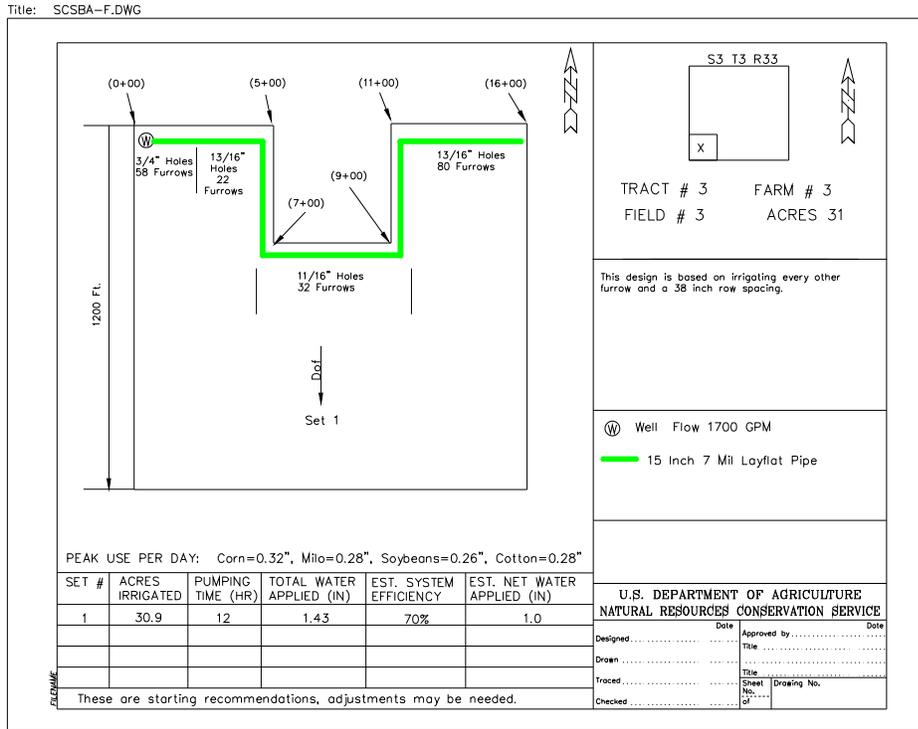

Figure 3.6 – Example 3 Plan View
**STEP 4:** A design plan view will help avoid confusion when installing this type of system (fig. 3.6).